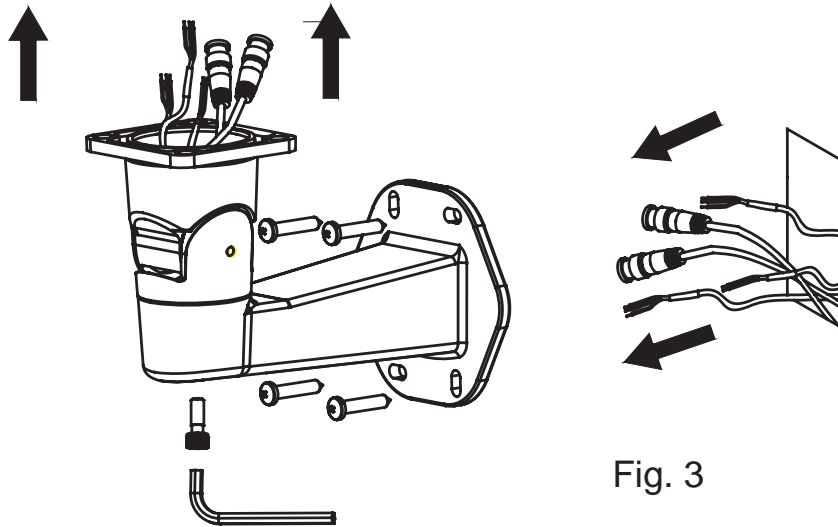

Fig. 3
- 3.1 First of all, take out the bracket from the box and put the power cable and video cable through the bracket then fix the bracket to the wall (Fig 3). (Loose the screws of the bracket for easy assembly if necessary.)